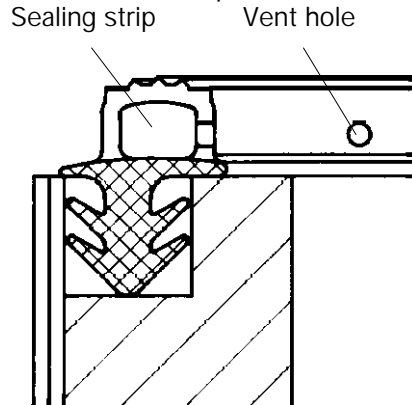

Figure 15
1. Carefully remove the faulty sealing strip (Fig. 15).